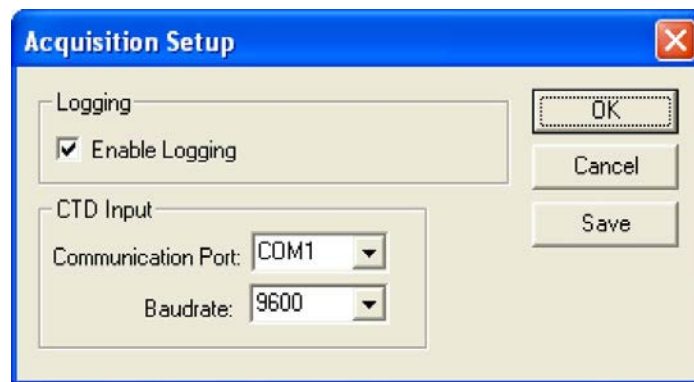

Figure 39. The Acquisition Setup Dialog Box
5. In the CTD-N Acquisition dialog box, click Setup. The Acquisition Setup dialog box shown in Figure 39 opens.